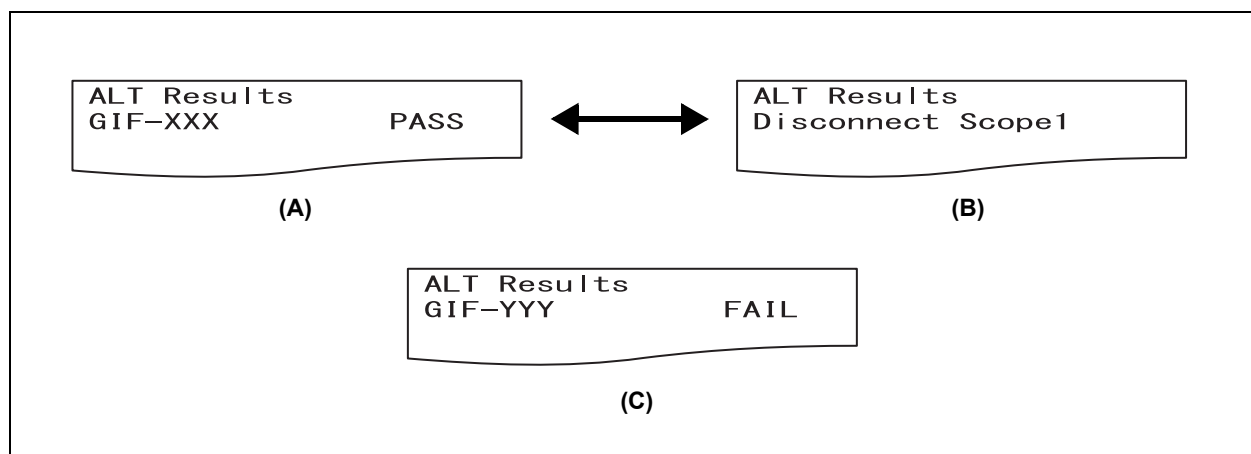

Figure 5.19
- 4** The automated leakage testing is automatically completed. When no leak is detected, a short beep sounds, and The LCD alternately displays the two ALT Results indicators (A) and (B) as shown in Figure 5.19. When any leakage is detected in the testing, long beeps sound, and the ALT Results (see C in Figure 5.19) indicator is displayed.